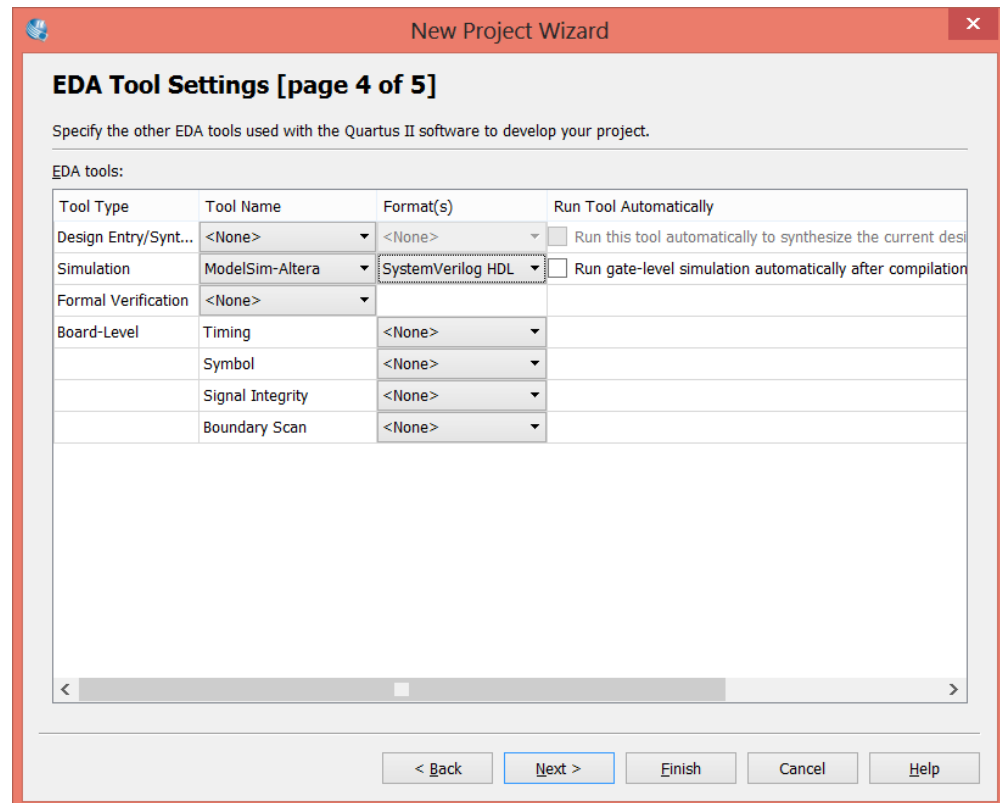

Figure 3
- Click **Next** on page 4. Select **ModelSim-Altera** as the simulation tool name, and **SystemVerilog HDL** as the simulation format. See Figure 3. Click **Finish** on page 5.